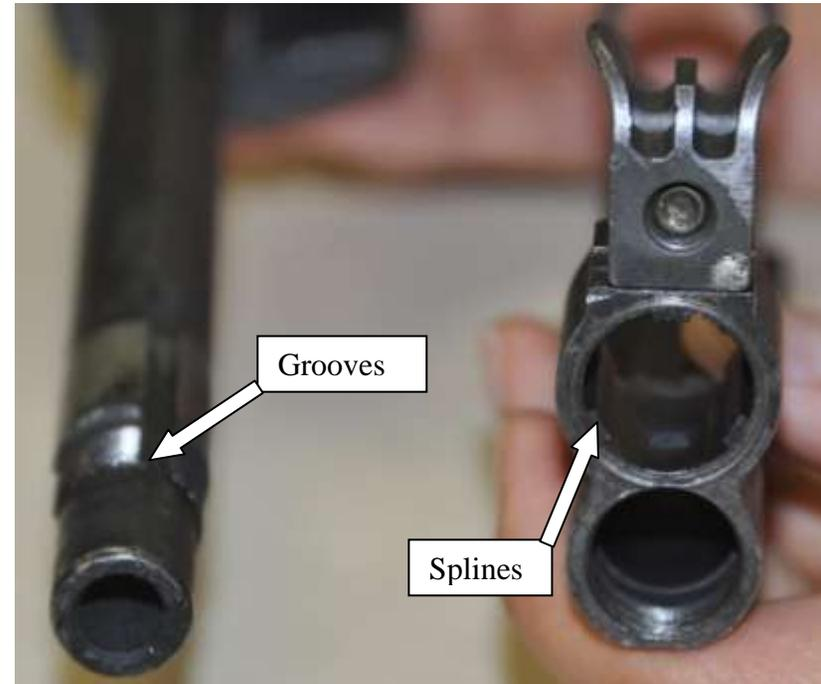

Figure 30 -Splines & grooves
- 2) Place the gas cylinder over the barrel, making sure that the splines are aligned with their grooves (fig 30).